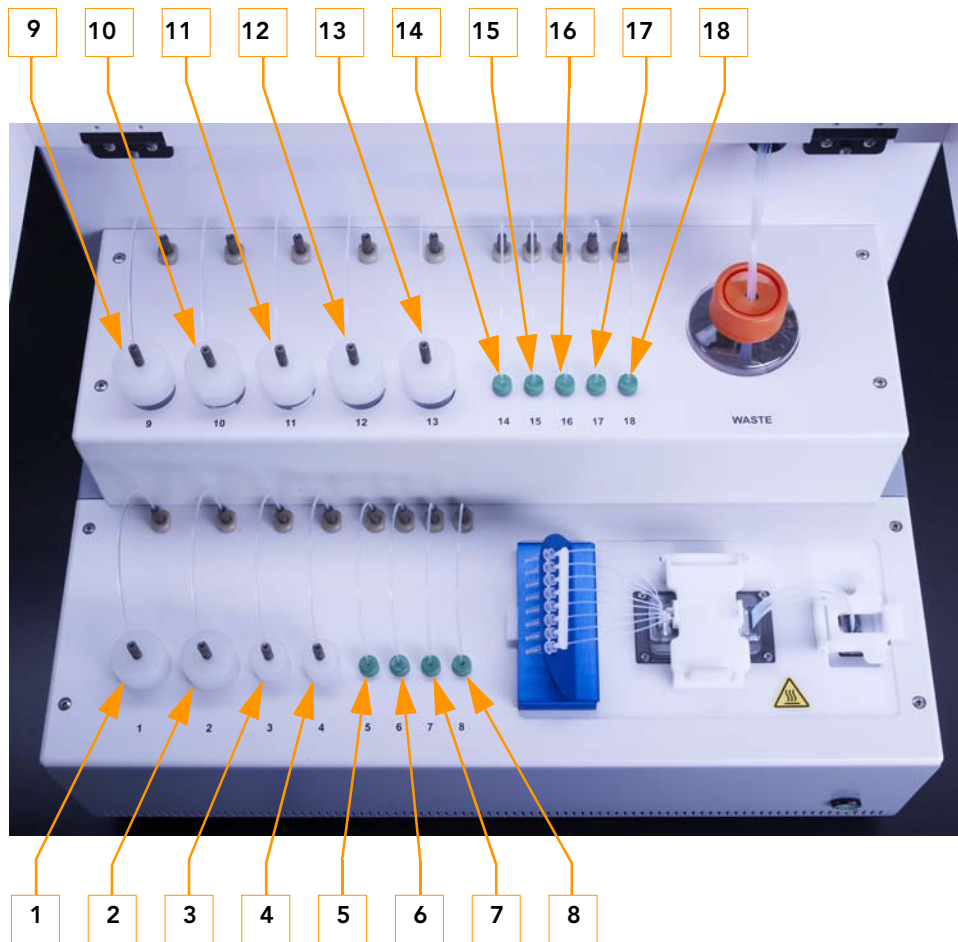

Figure 39 Cluster Station Reagent Positions
1. In the **Syringe Pump** field, select the reagent position. Reagents 1–18 correspond to the reagent positions illustrated in Figure 39.